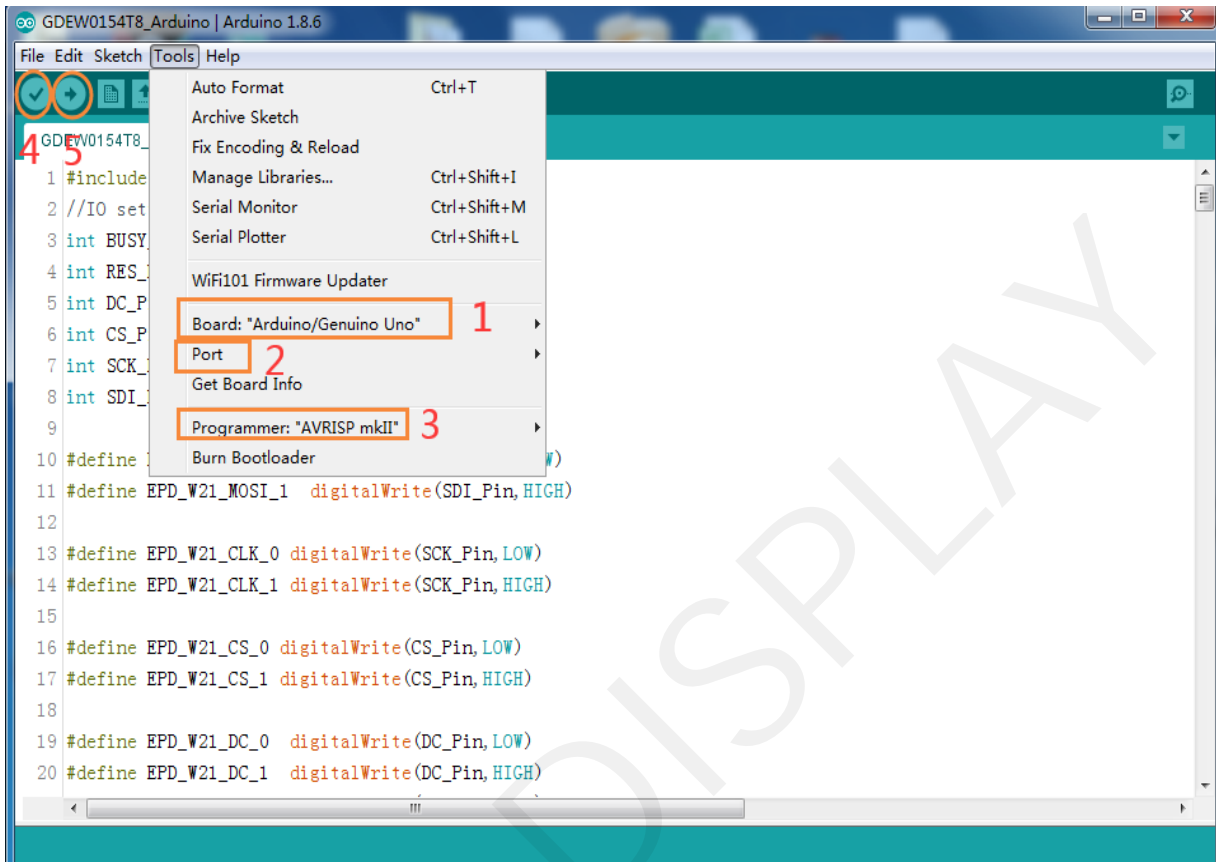

Figure 6 : Steps of downloading program
- 4) Configure in "Tools" in Figure 6.
- 5) Select development board model "Arduino/Genuino Uno" in position 1 of Figure 6.
- 6) Select COM port in position 2 of Figure 6.
- 7) Select programmer model "AVRISP MKII" in position 3 of Figure 6.
- 8) Click position 4  of Figure 6 to compile the program.
- 9) Click position 5  of Figure 6 to download the program to development board.